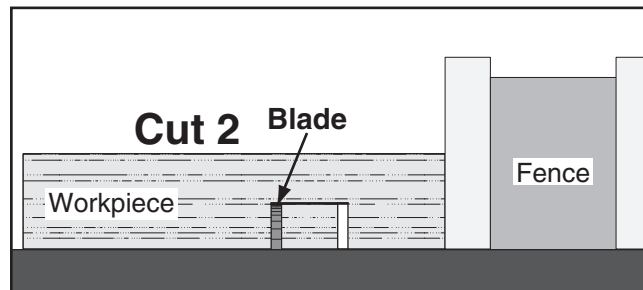

Figure 59. Second cut for a single blade dado.
8. Repeat cutting operation on other side of dado channel, as shown in **Figure 59**.